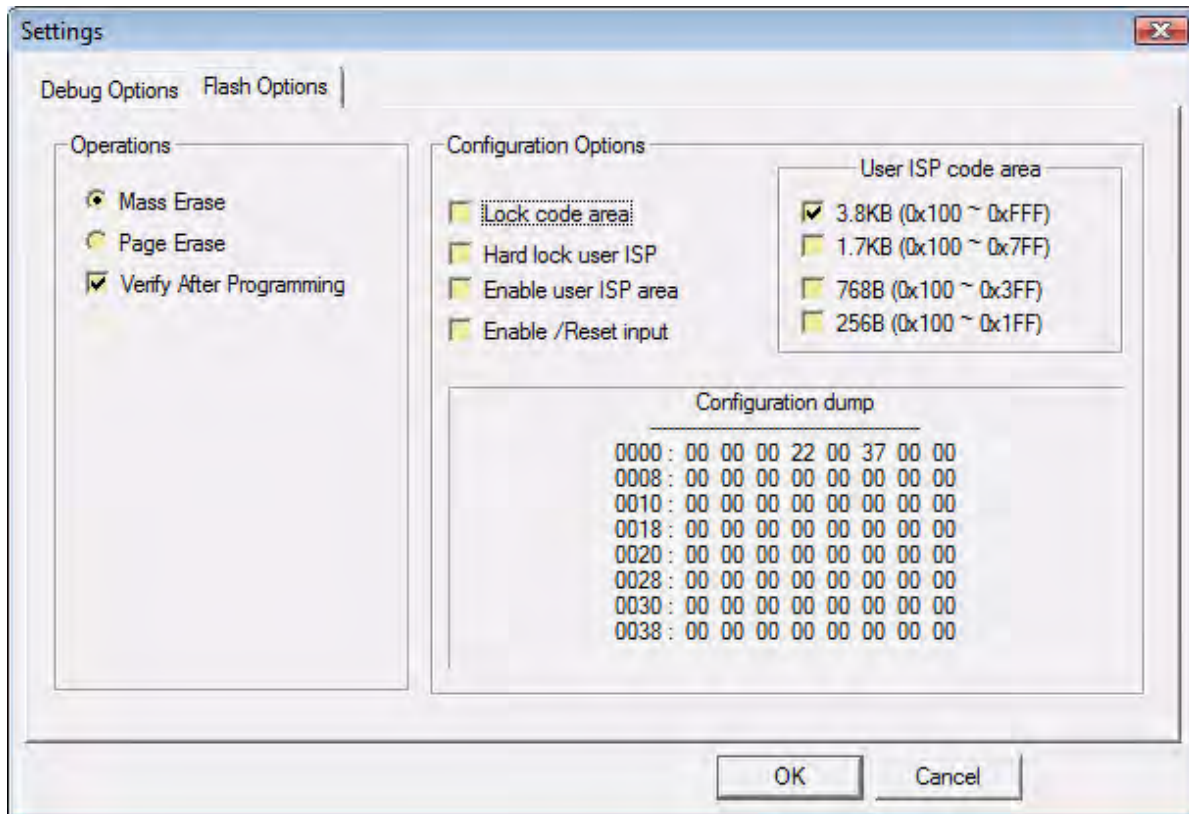

Figure 27. Configuring the Flash Options
8. Click the **Flash Options** tab. The Flash Options Settings dialog will appear, as shown in Figure 27. To select the proper options for Flash programming, refer to the Z51F3220 Product Specification \(PS0299\).